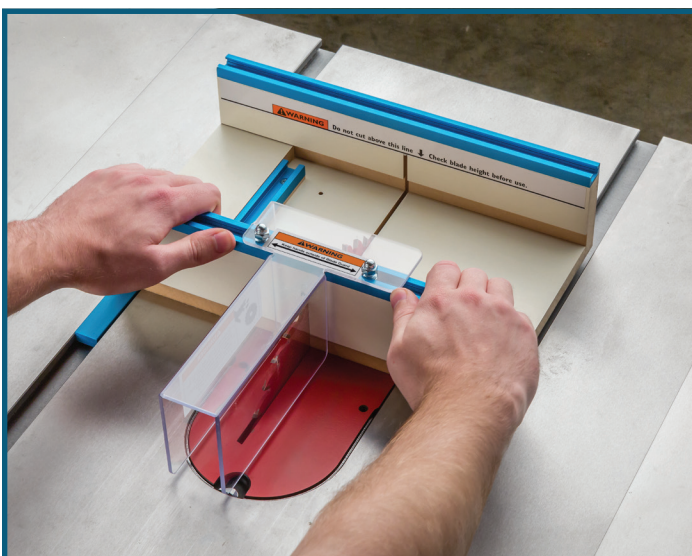

Fig. 4
9. With the full Sled Body (1) at the front of the saw, clear of the blade, turn on the saw and push the sled through the blade, stopping well before the blade emerges out the back of the plastic Blade Guard (6). **Fig. 4.**